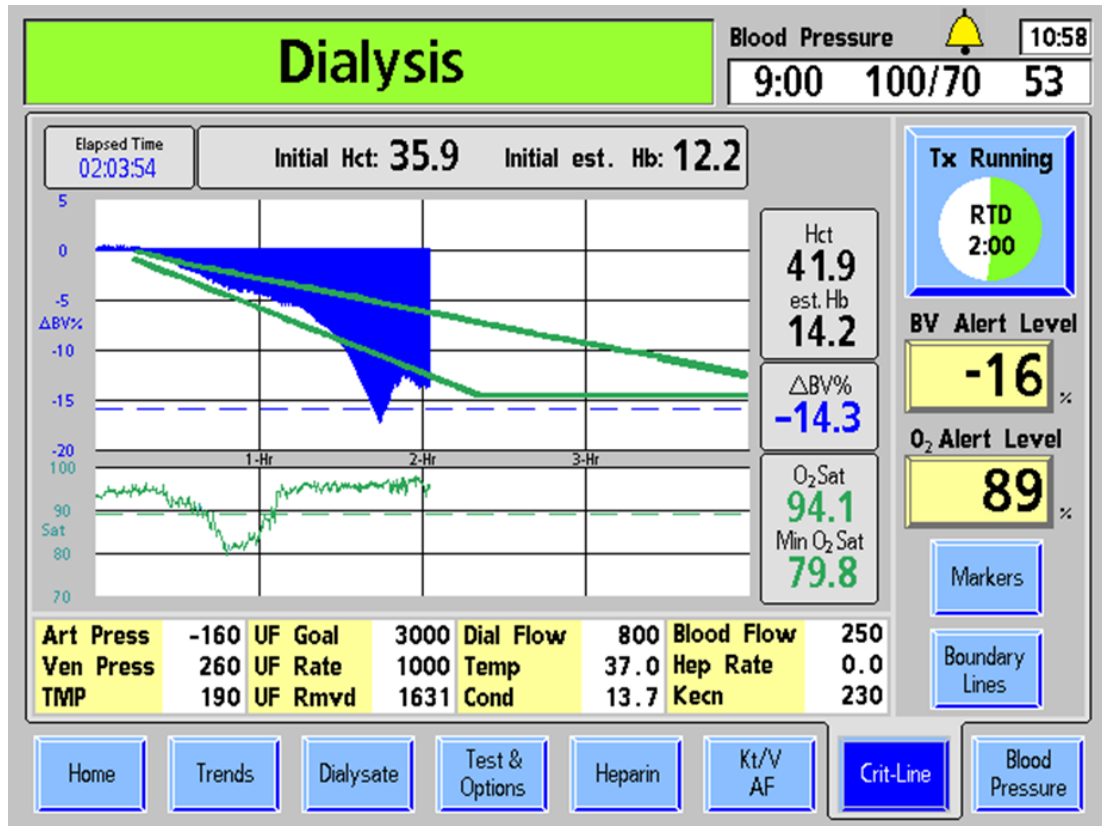

Figure 77 – Crit-Line Screen (Showing BV with Boundary Lines and O₂ Saturation) (Showing functional software version 2.74 or later)
The “Crit-Line” screen can display either Blood Volume (BV) (see Figure 77 on page 156) or Hematocrit (Hct) (see Figure 78 below) on the upper graph depending on the Service Mode setting.
<p>Boundary Lines – If enabled by pressing the Boundary Lines button, these two green lines on the BV graph show where a per hour drop of -3% and -6.5% in relative blood volume would be. The lower line does not go below a -15% drop for the entire treatment. The two lines are displayed at the beginning of treatment, but do not cover the first 15 minutes of treatment (see Figure 77). After four hours of treatment, the boundary lines disappear.</p> <p>When boundary lines are displayed, the blood volume change profile letter (A, B or C) is not shown.</p>
The BV (Blood Volume) graph (Figure 77 on page 156) is displayed as a fill graph. A line is filled from 0 to the Δ BV% value. As the dialysis treatment progresses, fluid is taken out of the blood by the 2008T hemodialysis machine’s ultrafiltration pump. This will result in a greater percentage of the blood being red blood cells and the blood volume fill graph will trend downwards and approach the alert level. The BV alert level is drawn as a blue dotted line across the BV graph.
Oxygen saturation is the default display on the “Crit-Line” screen’s bottom graph. The O₂ Sat (Oxygen Saturation) graph (Figure 77 on page 156) is a line graph drawn from the previous oxygen saturation value. The O₂ Alert Level is drawn as a green dotted line across the Oxygen Saturation graph.